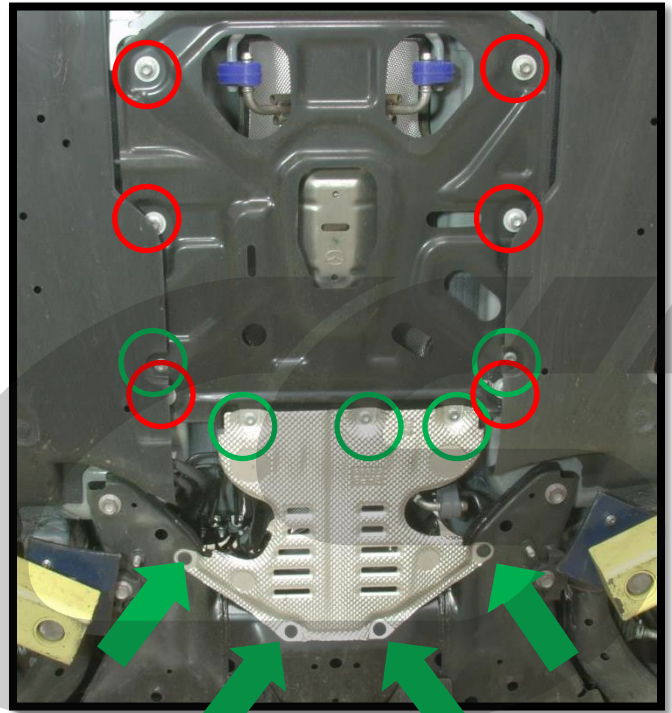

Figure 3a
- a) **Remove the cat heat shielding.** Pry out the four(4) plastic push clips with a flat blade screw driver (green arrows in Figure 3a).
- b) **Use a 10mm socket wrench to remove the five (5) bolts (green circles in Figure 3a).**
- c) **Remove the cat skid protection plate.** Un bolt the six (6) 12mm bolts (red circles) with a socket wrench. Slide the plate to one side to free it from the under body aero panels (Figure 3a).